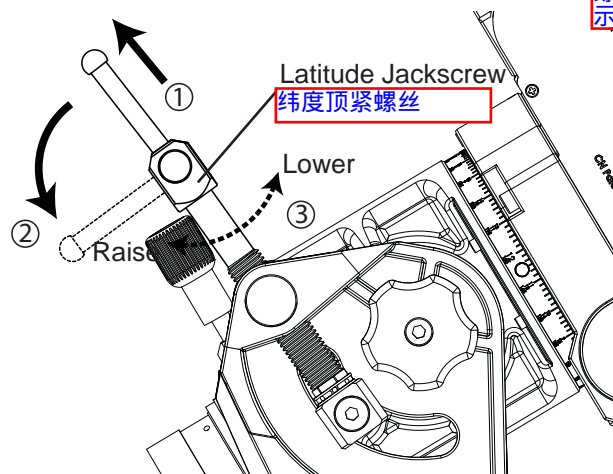
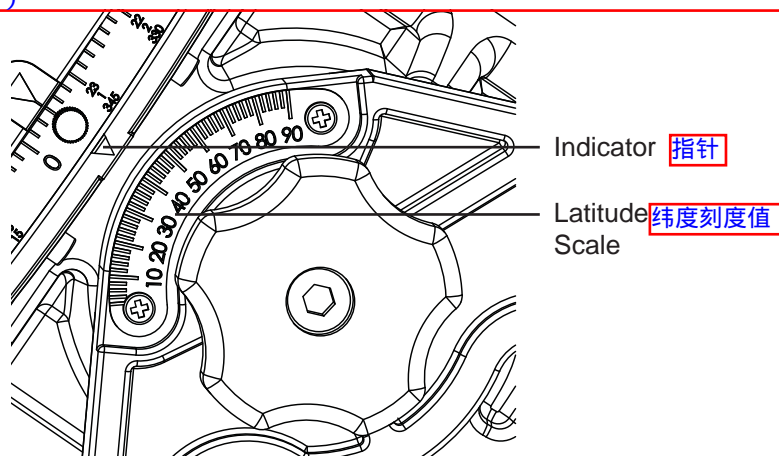

Fig. 2.3b
Fig. 2.3c
2. Pull out the handle stowed in the latitude jack screw (Fig. 2.3b), and use it to turn the jack screw to set the R.A. axis's elevation to a specified angle by referring to the latitude scale on the left side of the mount. (Fig. 2.3c)
2. 拉出连接在纬度顶紧螺丝上的把手（见图2.3b），随后通过该把手转动顶紧螺丝并根据赤道仪左侧的纬度刻度值调节赤经轴的仰角到一个特定的角度。（图2.3c）
3. Stow the handle into the jack screw after the adjustment. (Fig. 2.3b) 3. 调节完成后把顶紧螺丝的把手归位